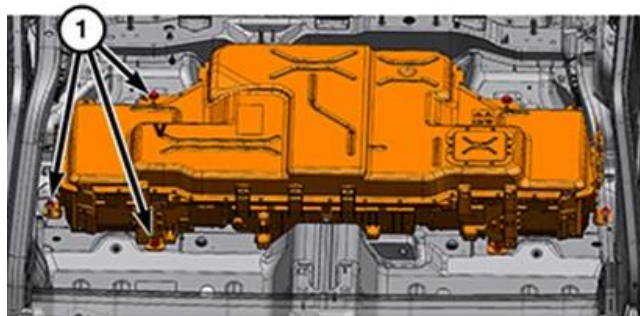

Figure 37 – HV Battery Bolts
40. Remove the bolts (1) securing the HV battery to the vehicle (Figure 37).
29. Install the HV battery pack bolts (1) and tighten to (Figure 37):